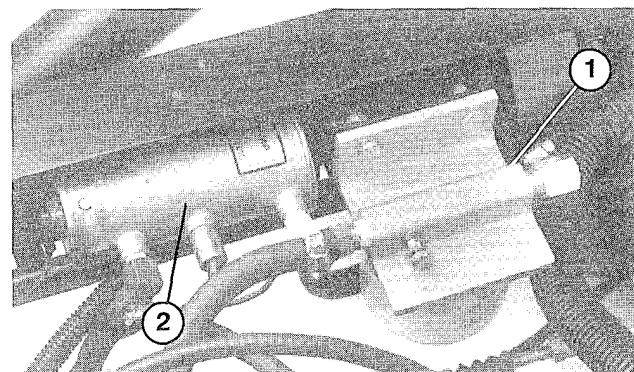

Figure 40
FUEL SYSTEM (Fig. 40–42)
2. Fuel filter/water separator is mounted on inner side of right frame rail (Fig. 40).
- Fuel pump is mounted on inner side of right frame rail (Fig. 40).